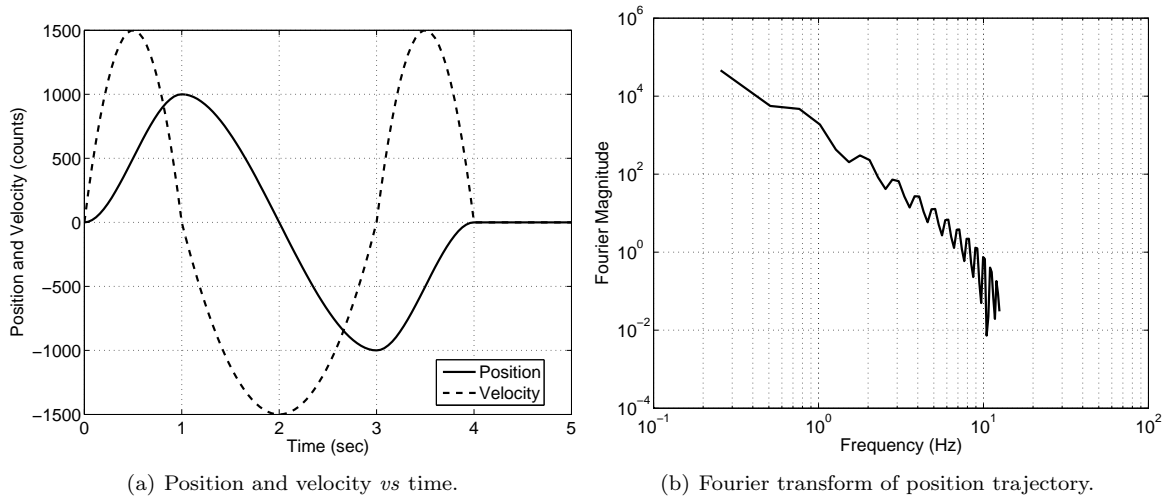

Figure 4: Reference trajectory plots.
You will be fitting three cubics of the form of (3) together to make up the complete trajectory. A plot of the resulting position and velocity is shown in Figure 4(a). *NOTE:* at the junction of two trajectories you will have one “duplicate” sample which should be deleted. The final reference trajectory should contain exactly 126 points (5.00 seconds in duration; from $t = 0.00$ to $t = 5.00$). The final one second is a “runoff” area for overshoot and settling.
One strategy for selecting ω_n is to examine the frequency content of the input; this may be done by finding the Fourier Transform of the cubic polynomial position trajectory of Figure 4(a). The MATLAB `fft` function (Fast Fourier Transform) is ideally suited for this operation.
The resulting plot of Fourier magnitude *vs* frequency is shown in Figure 4(b). You should probably not try to place the natural frequency of your dominant closed-loop poles above *all* the harmonic content, but you should try to respond to *most* of it. Note that the Fourier Magnitudes of Figure 4(b) are plotted on a logarithmic scale. You may wish to use the MATLAB `bode` function to check the frequency responses of your open- and closed-loop transfer functions during the design.